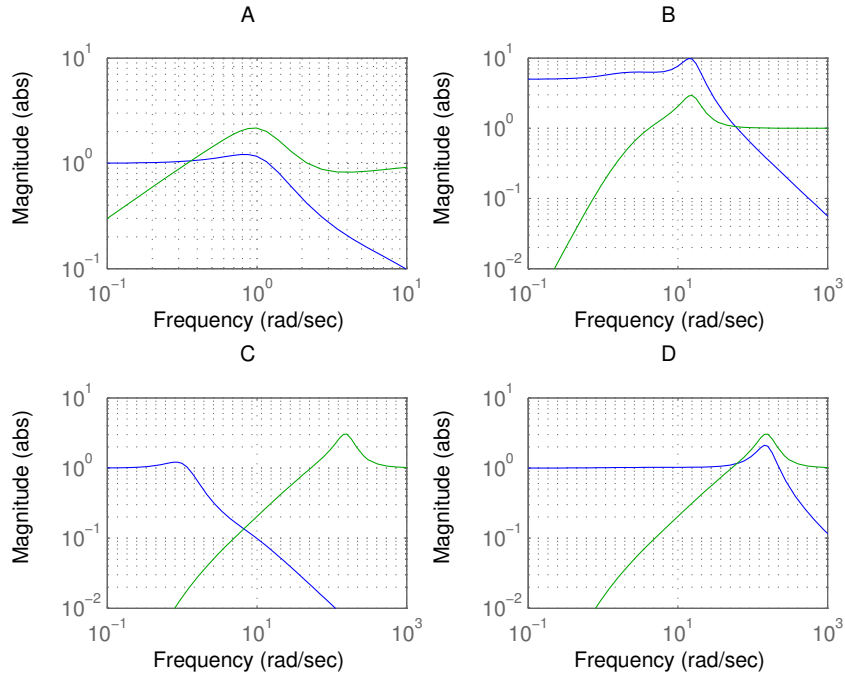

Figure 14.3 Magnitude plots of S and T in problem 6.
- c.** Figure 14.3 shows four plots, where one of the plots shows the sensitivity and complementary sensitivity function of a closed loop system discussed in **b**, with $\omega_0 = 1$ and a particular choice of $C_2(s)$. Which plot? Motivate your